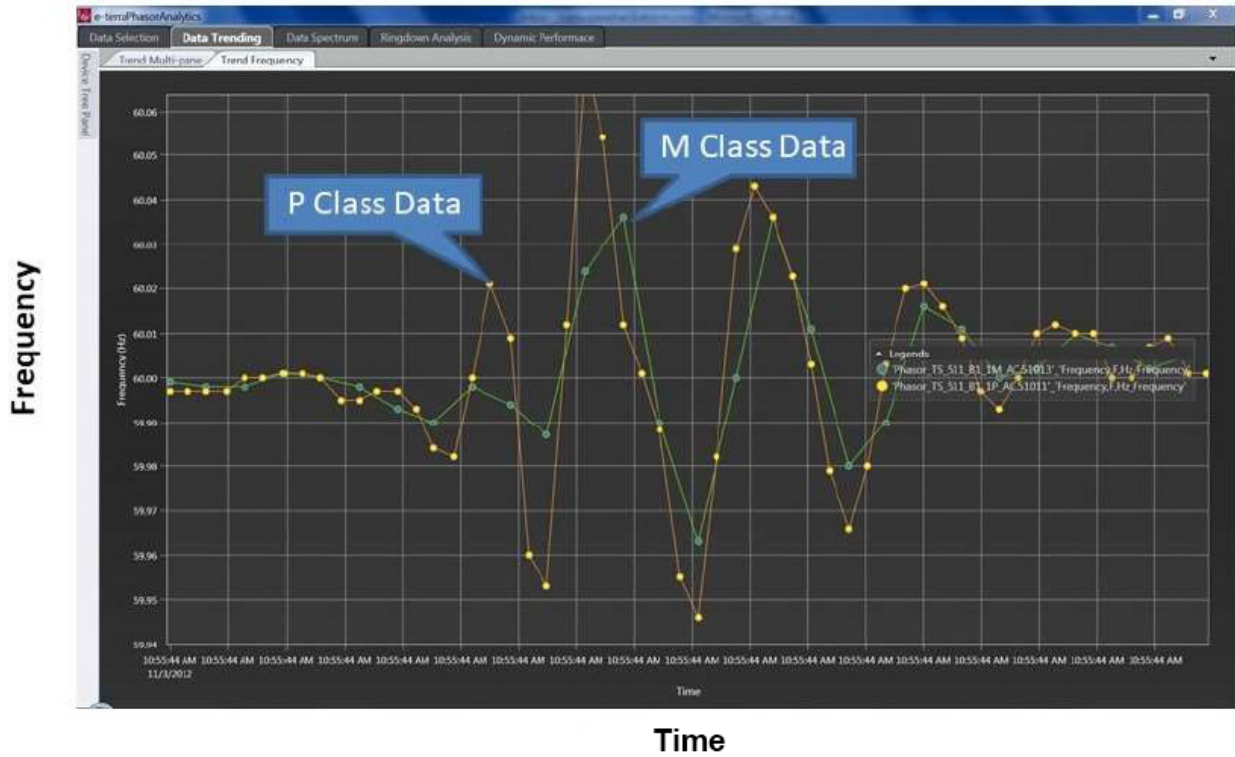

Figure E-2: P and M Class Data Comparison
- The M Class or Measurement Synchrophasors – the M Class synchrophasor integrates sample values over a 7-cycle window. Additionally, the M Class provides a bandpass filter to eliminate frequency components around the nominal frequency. With such a large integration window, an M-Class Synchrophasor will NOT see fault quantities. Moreover, the M-Class measurements will tend to “average” over the fault window. The M Class can be emitted at rates up to 60 measurements per second. Figure E-2 shows a sample comparison of IEEE C 37.118.1 “P” and “M” class data for 120 frames and 60 frames per second, respectively, from field measurements.